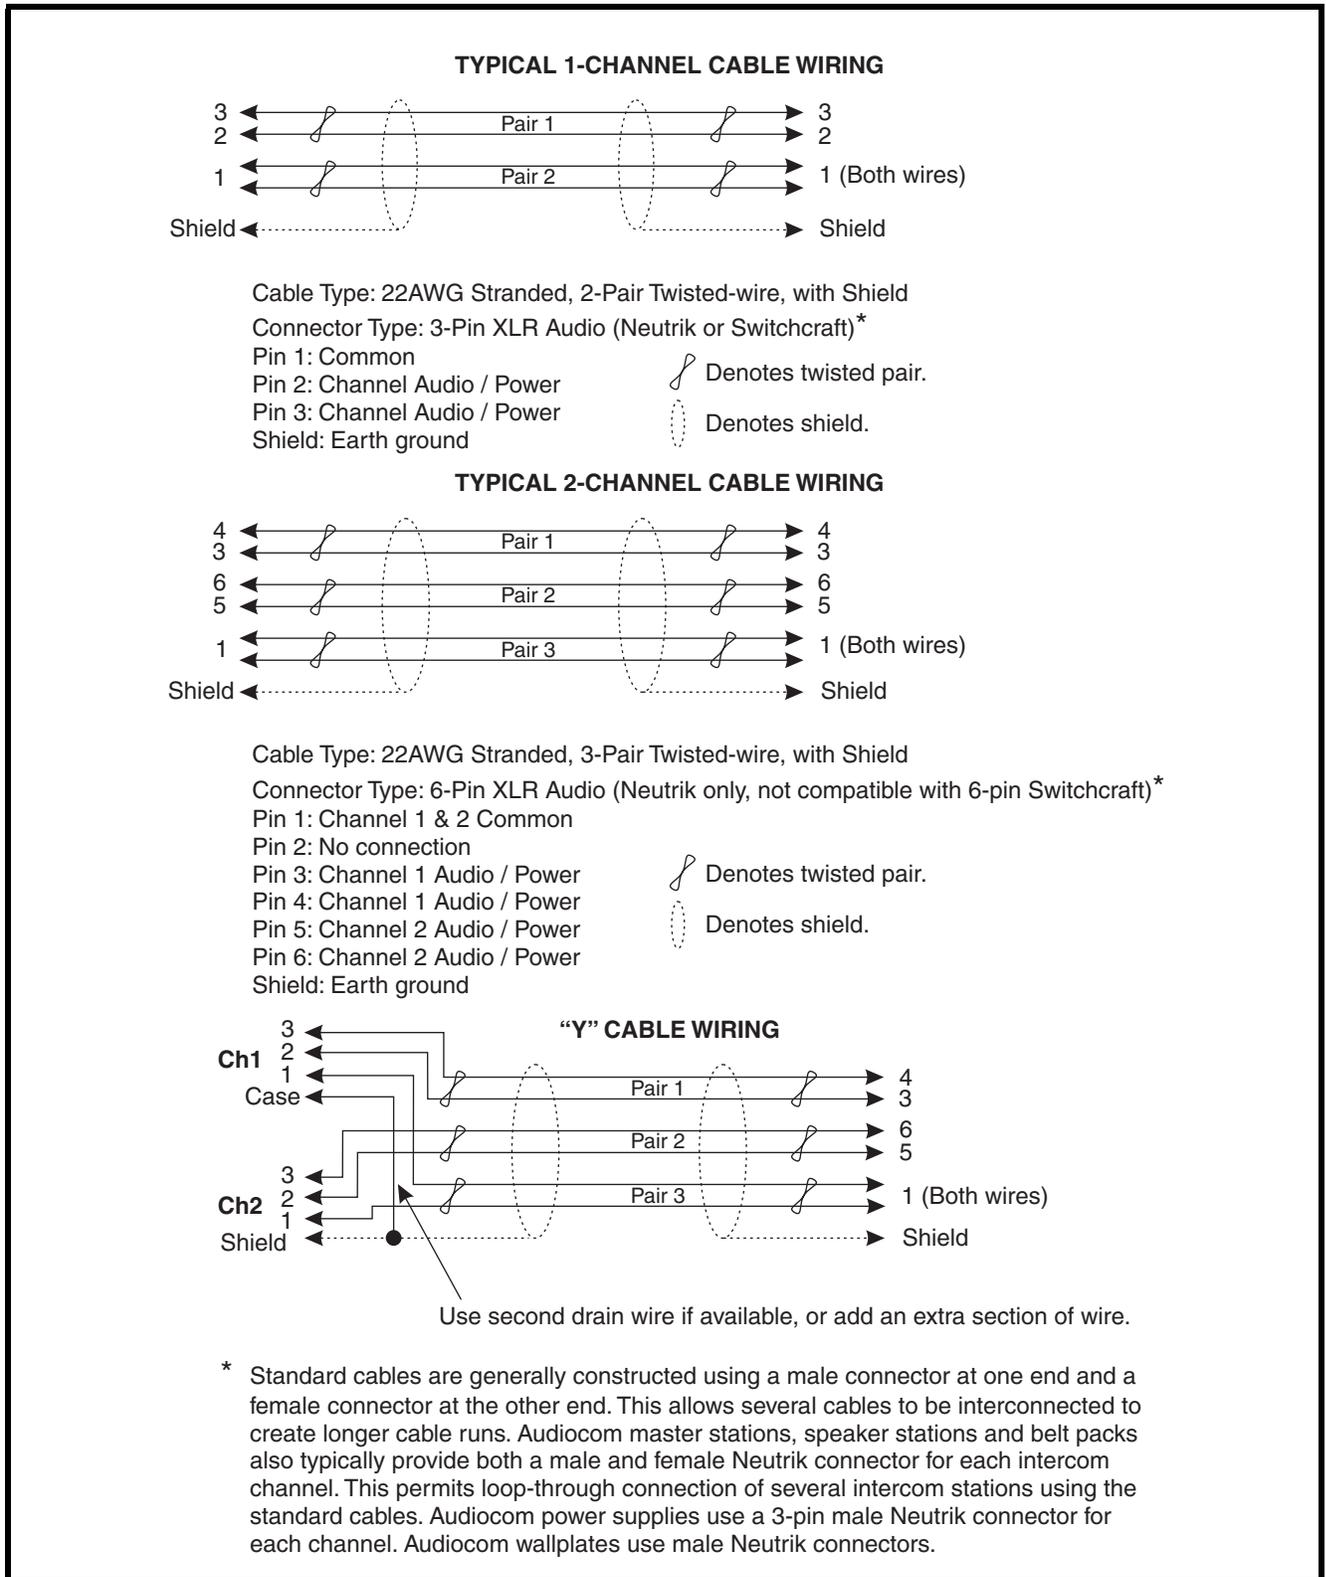

FIGURE 7. Audiocom Intercom Cables
1. 1-channel intercom cable. Sold Separately. Use Telex “ME” cables, below. Or, build per Figure 7 on page 15.
2. 2-channel intercom cable. Sold separately. Use Telex “ME/2 cables, below. Or build per Figure 7 on page 15.
3. Y adapter cable. Sold Separately. Use Telex CA-23-16. Or build per Figure 7 on page 15.